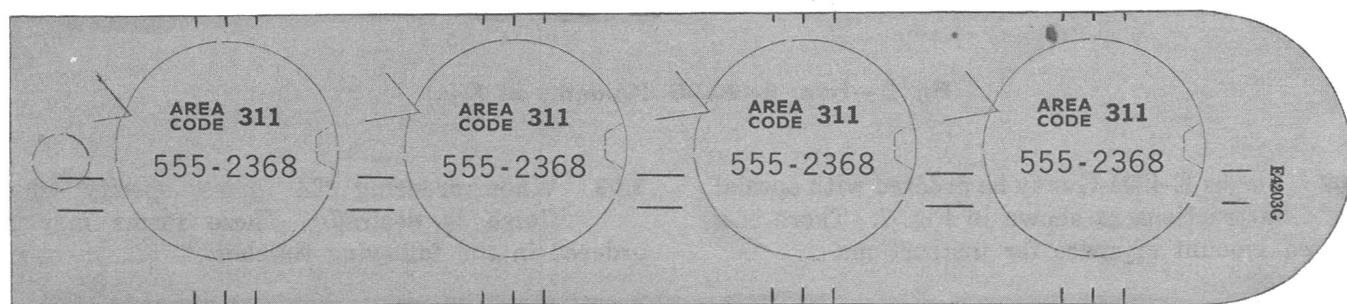

Fig. 1—Form E-4203-G (Quantity of Four)
2.01 Forms E-4203-G (Fig. 1) and E-4203-GEZ are 2-line gray number cards with three guide lines for numbering machines. Form E-4203-G is a permanent number card to be mounted in the card holder or fingerwheel. Form E-4203-GEZ has an adhesive back and is a temporary card to be pasted on the window. ♦These forms are intended for use with nonmodular rotary dial sets.♦